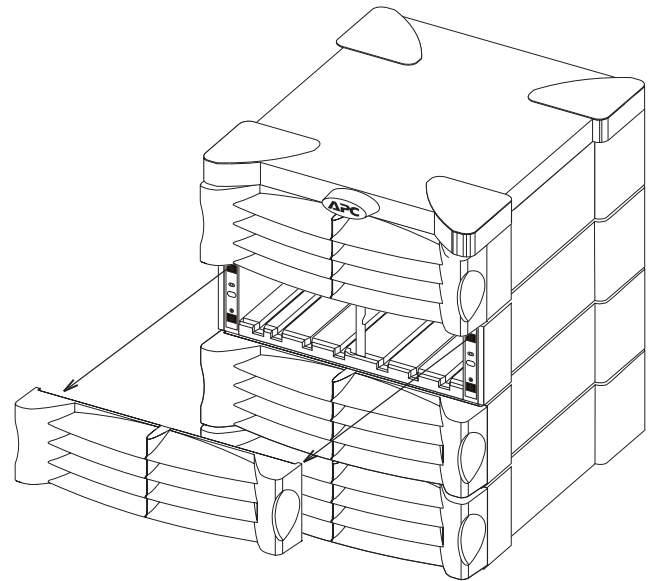

Fig 5-1 Removing Cover Grills from Frame
1. Grasp one of the cover grills by the the side holds that are molded into it. See figure 5-1.